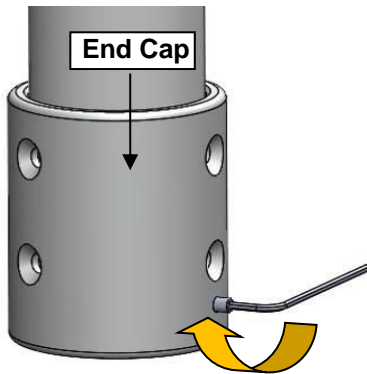

Figure 24
- Align the 6 holes and fix with 6 screws provided. See fig 24.